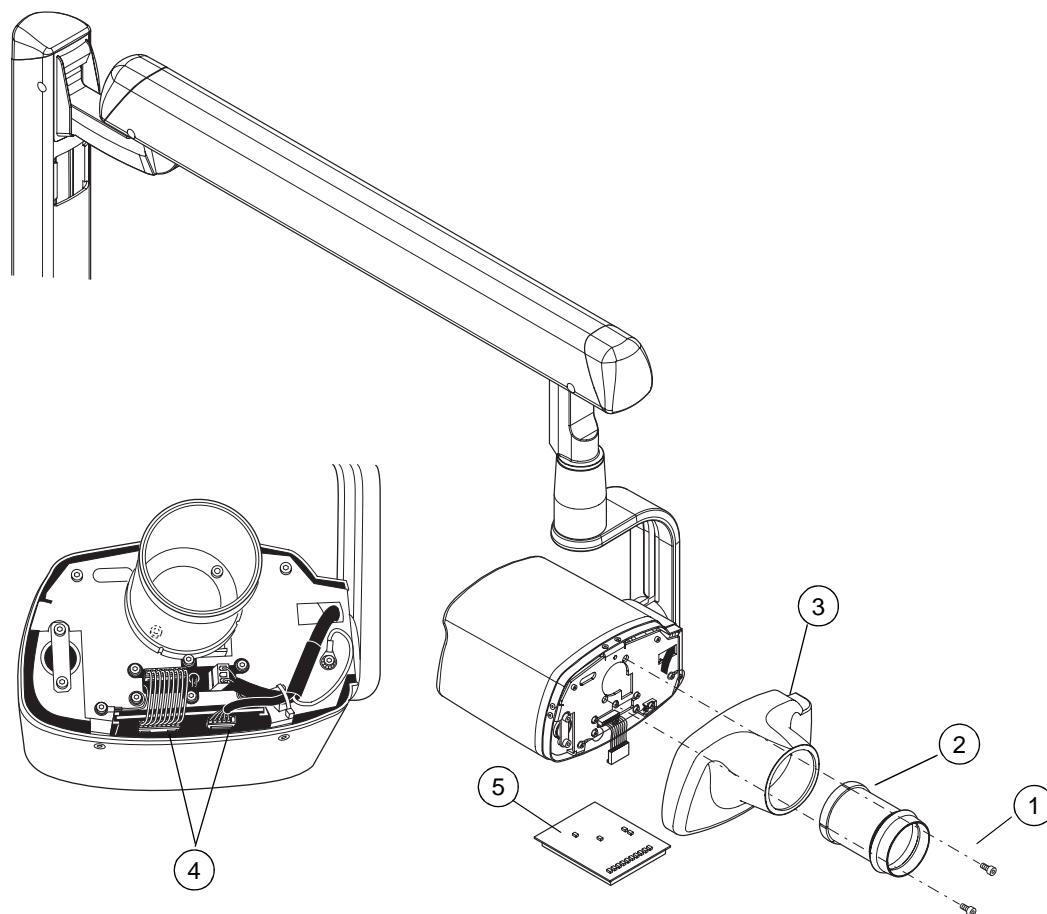

Figure 16
1. Unscrew the two M4x20 DIN 7984 fastening screws (figure 16, 1) of the cone (figure 16, 2) (inside the cone).
2. Remove the tube head front cover (figure 16, 3) and the cone.
3. Disconnect the two connectors from the tube head PCB (figure 16, 4).
4. Pull the tube head PCB (figure 16, 5) from the tube head.